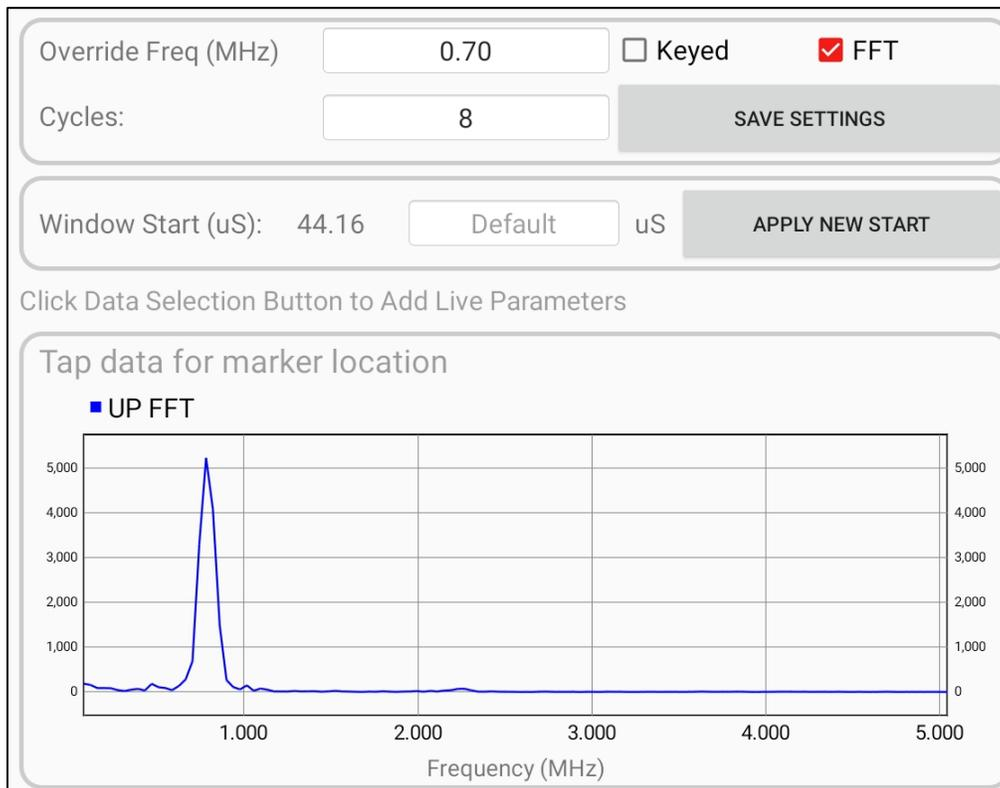

Figure 24: Example of FFT Waveform
- An example of an FFT with a single resonant frequency is shown in Figure 24.